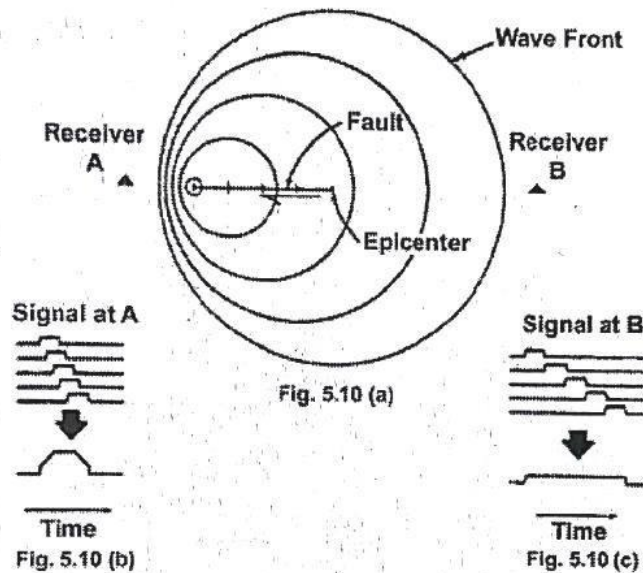

Fig. 5.10 Directivity or focusing of seismic energy
1. The propagation of 'seismic energy from the epicenter will have the following effects. The direction of fault rupture affects ground motion. Simply to say, if a fault rupture propagates towards a particular site the ground motion at that site will be greater than if a fault rupture propagates away from it as shown in Fig. 5.10 (a)
4. Although they originated at different times, the wave fronts, and therefore the pulses generated, tend to arrive close to the same time at receiver A (in the direction of rupture propagation) because the pulses that started the latest have the least distance to travel, as shown in Fig 5.10(b).
5. At receiver B (opposite to the direction of rupture propagation) the pulses that started last have the greatest distance to travel, so that pulses originating from different parts of the fault tend to arrive spread out over time, as shown in Fig 5.10(c).